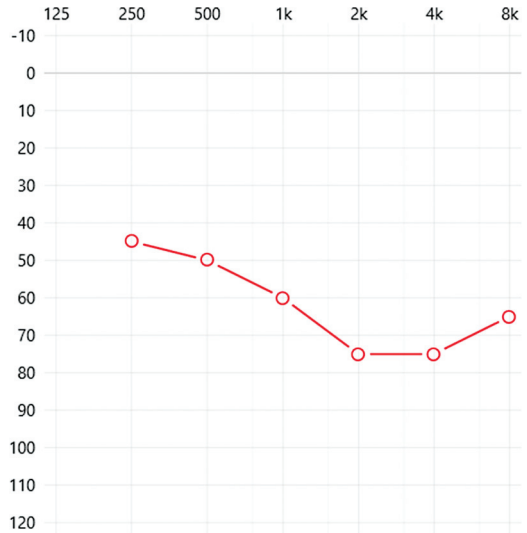

Figure 14 Audiogram to be used for Activity 4.
2. Complete steps 2 to 15 in Activity 3 with a real person and use the audiogram data in Figure 14.